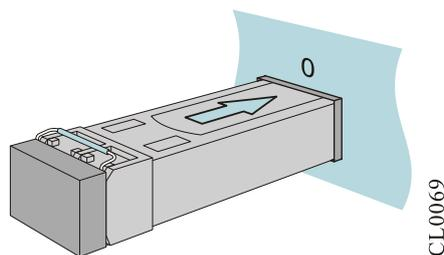

FIGURE 5-6 INSTALL SFP MODULE
Step 4: Up-turn the handle of the installed SFP module to the vertical position to lock the buckle at the top of the module. Use the hands to hold the two sides of the SFP module and push it into the SFP slot horizontally until the SFP module closely-contacts with the slot (you can feel that the shrapnel at the bottom and top of the SFP module locks the SFP slot). The diagram of installing the SFP module is as shown in Figure 5-6.